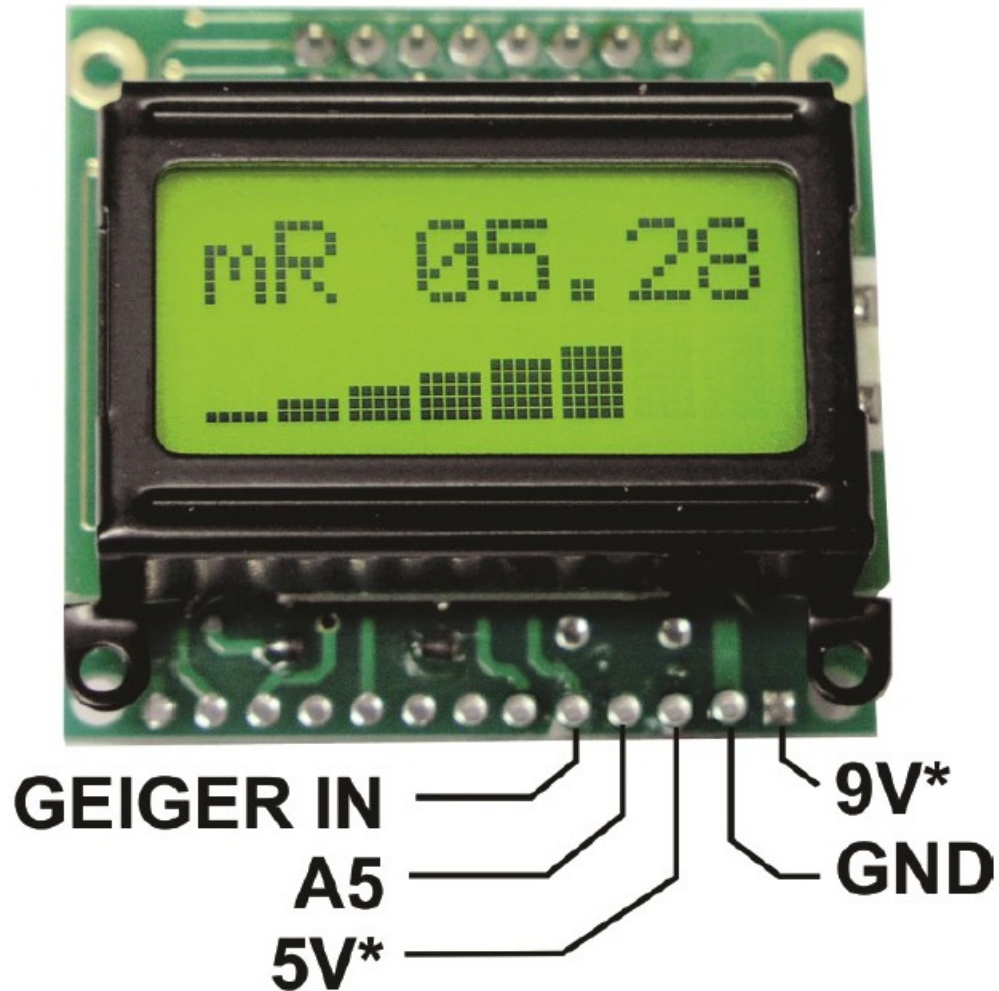

Figure 8 Front View
- You need to think about how you want to connect the ADM-01 to your circuit and what power supply you want to use. The ADM-01 is a versatile development board for the 16F88 PIC microcontroller. Figure 8 below illustrates the lines available to the user. In this application, we are using it as an Analog-Digital-Meter and we